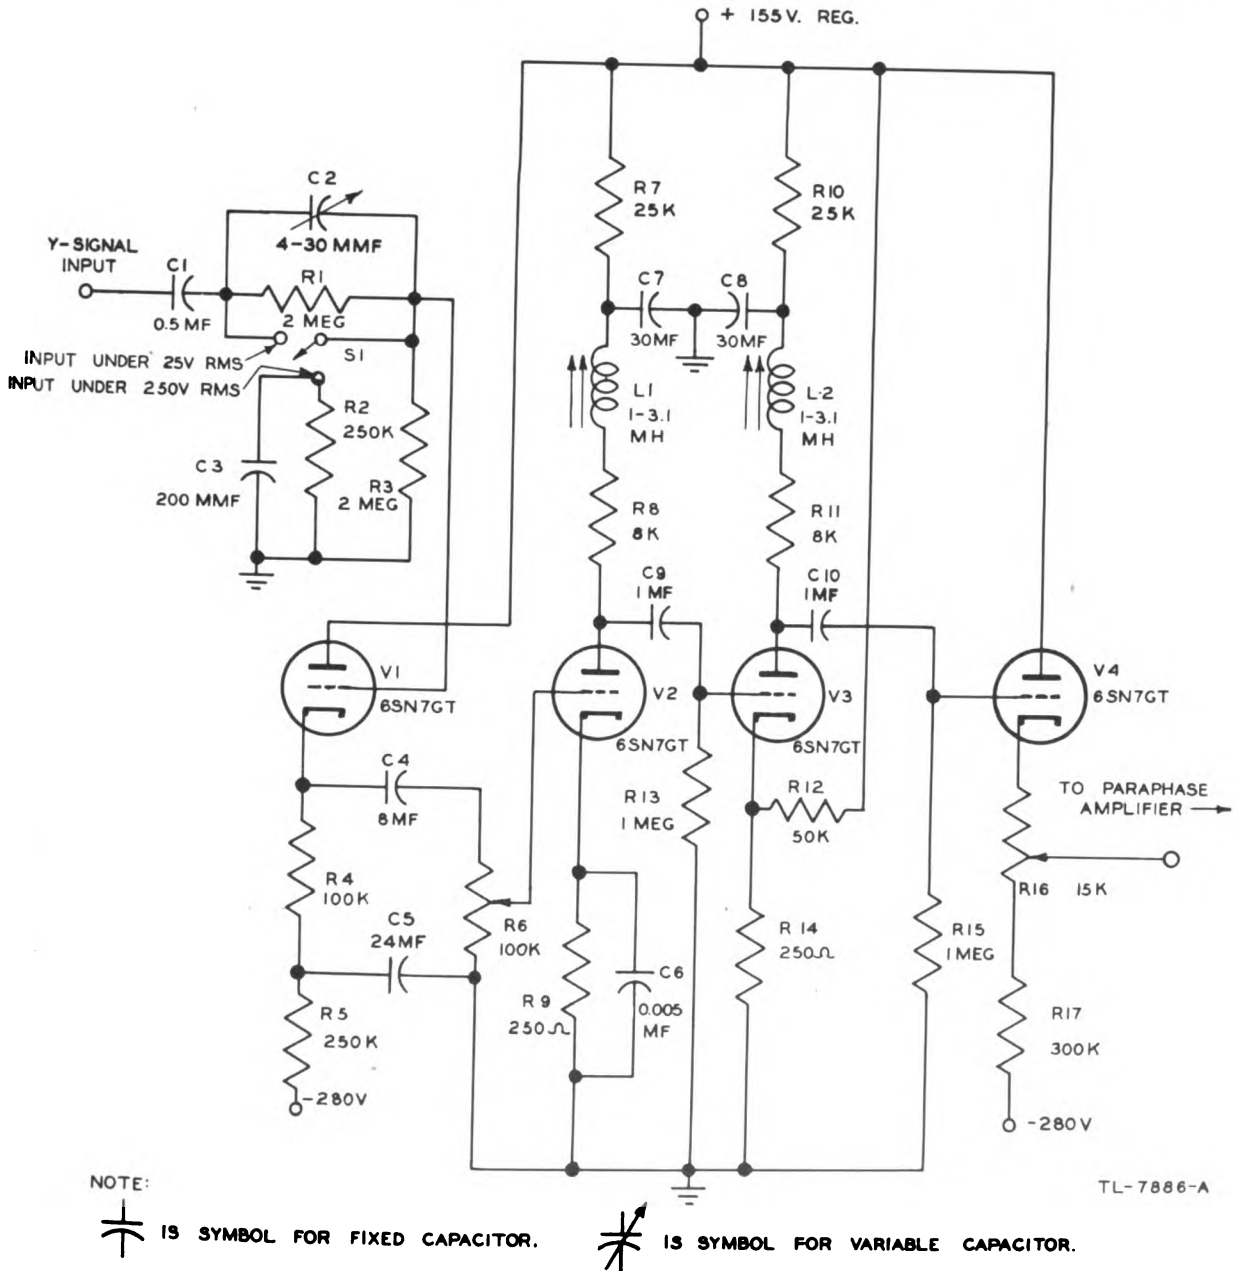

Figure 21. Y-axis video amplifier, simplified schematic diagram.
33. Y-AXIS VIDEO AMPLIFIER (fig. 21).